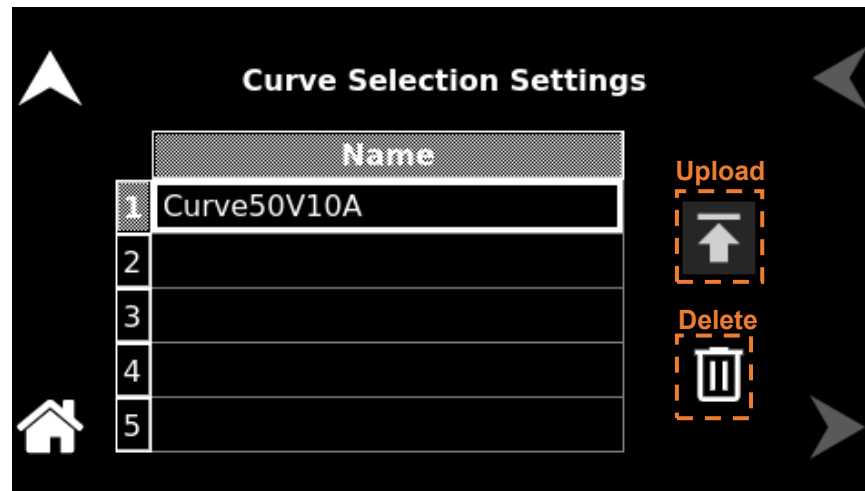

**Figure 11-57. Curve Selection Settings - Upload button disabled (Curve Type - User)**
- The user can load a curve defined in the virtual panel by selecting the 'Upload' button. Refer to the Figure 11-57.
- Click on 'Delete' to remove the existing or loaded curve if it is not needed. Refer to Figure 11-57.